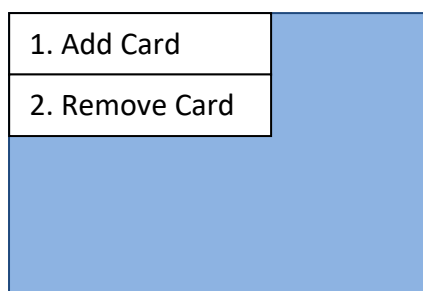

Figure 70 - RFID card control screen
- 2) From the screen in Figure 68, select item '3. Management' and press Confirm/Enter. Wait for the page in Figure 70 to appear.